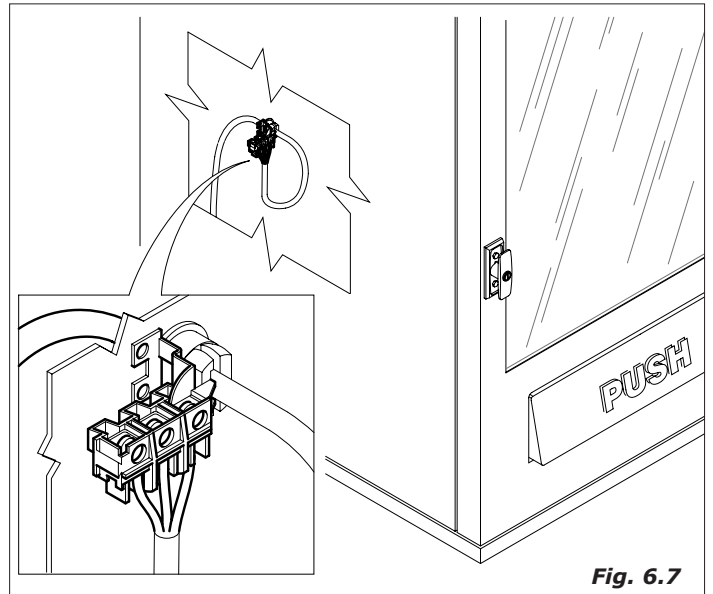

Fig. 6.7
The clamp of the power cable junction box under tension (Fig.6.7-pos.1)